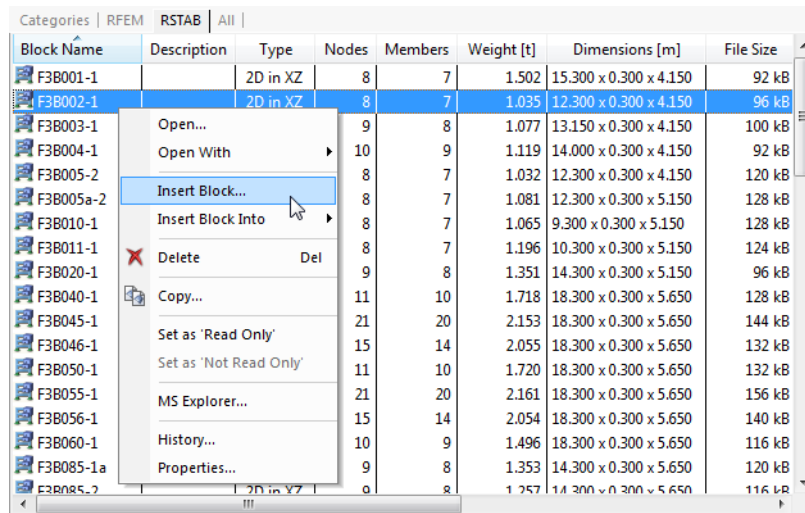

Figure 12.38: Context menu of block
- use the context menu of the block (see Figure 12.38).